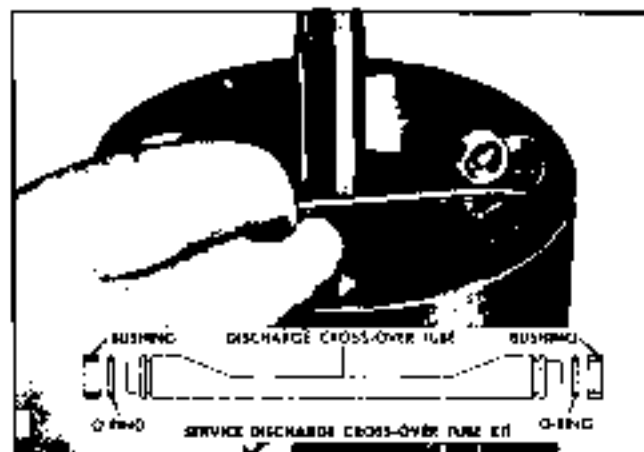

Fig. 1A-38 Installing Service Discharge Crossover Parts
3. Assemble one end of service discharge crossover tube into hole in front cylinder (Fig. 1A-37).